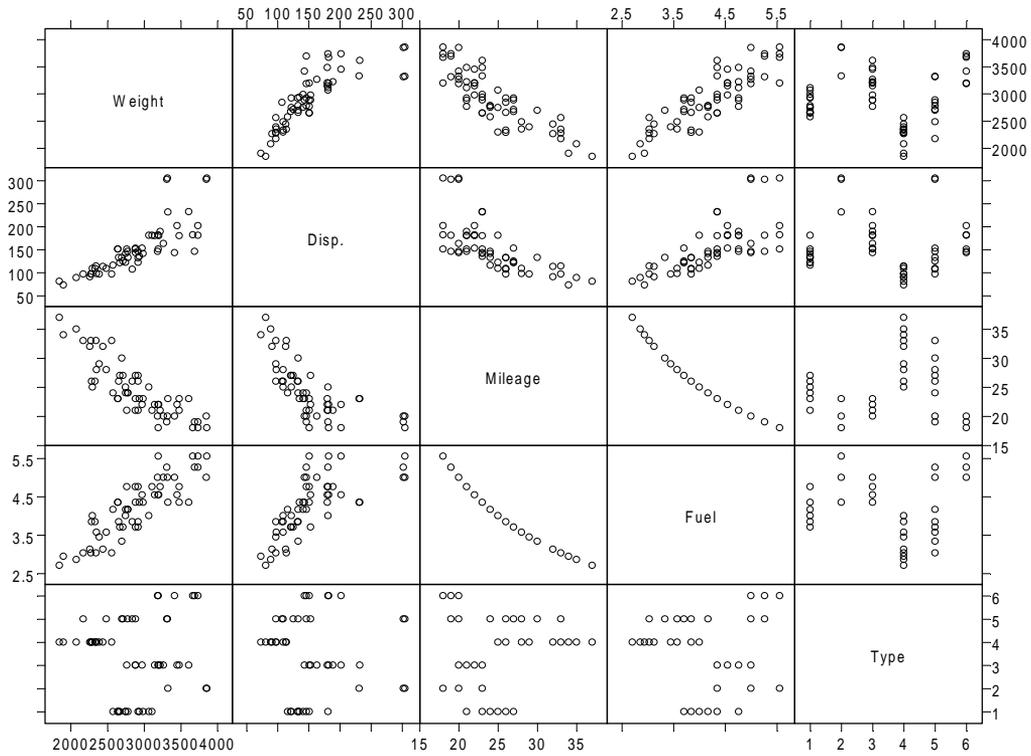

Figure 3.30: Scatterplot matrix of the `fuel1.frame` data. A number of strong relationships appears.
- Click the **Scatter Matrix**  button on the **Plots 2D** palette. The resulting scatterplot matrix is shown in Figure 3.30.
Now let's add histograms of the five variables displayed in Figure 3.30:
Spotfire S+ can fit a variety of lines through our scatter plots. We can fit least squares, robust, kernel, loess, and smoothing splines through the matrix plots. For example, to add least squares lines to Figure 3.30, do the following: